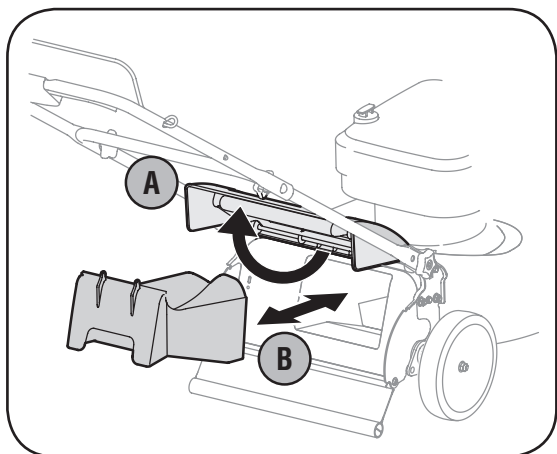

Figure 3-5: The mulching baffle
6. Before attaching the grass catcher, the mulching baffle must be removed, Figure 3-5.
- b. Insert the mulching baffle as shown in Figure 3-5 and release the rear discharge door.